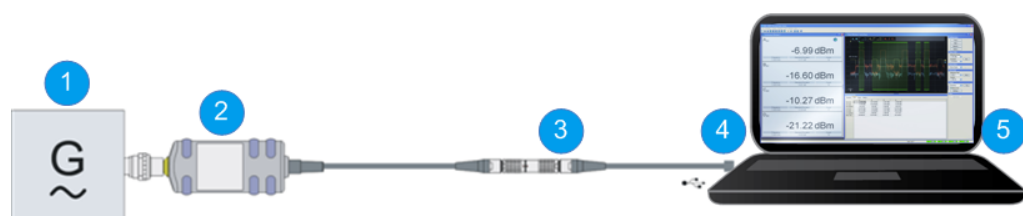

Figure 6-1: Setup with an R&S NRP-Z4 and an R&S NRPV
1. Connect the power sensor to the PC as shown in Figure 6-1.